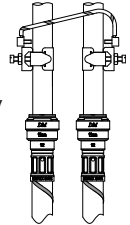

Fig. 9
- 4.15 **Adjacent pipes:** Adjacent suction and delivery pipes should be fitted with earthing clamps and connected with earthing wire size 4 mm² (Fig. 9).